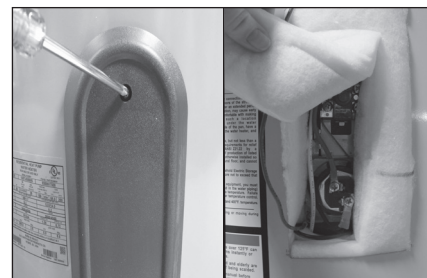

Figure 50 - Element Access Panel/ECO Compartment.
- 3** Remove the upper access panel on the water heater and carefully fold back the insulation and plastic element/ECO cover (Figure 50).